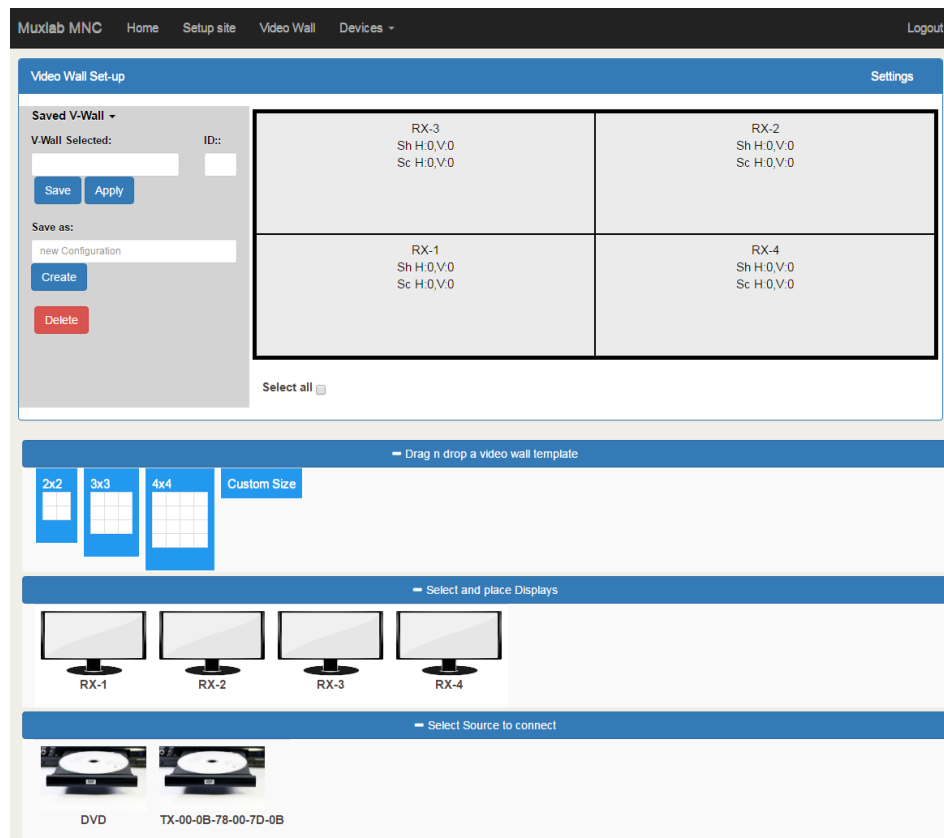

Figure 104: Video Wall Tab – Connecting Sources to Receivers
3. The user clicks on **+Video Wall Set-Up: Step #3**, which expands to provide the user with source mapping options (Figure 104).